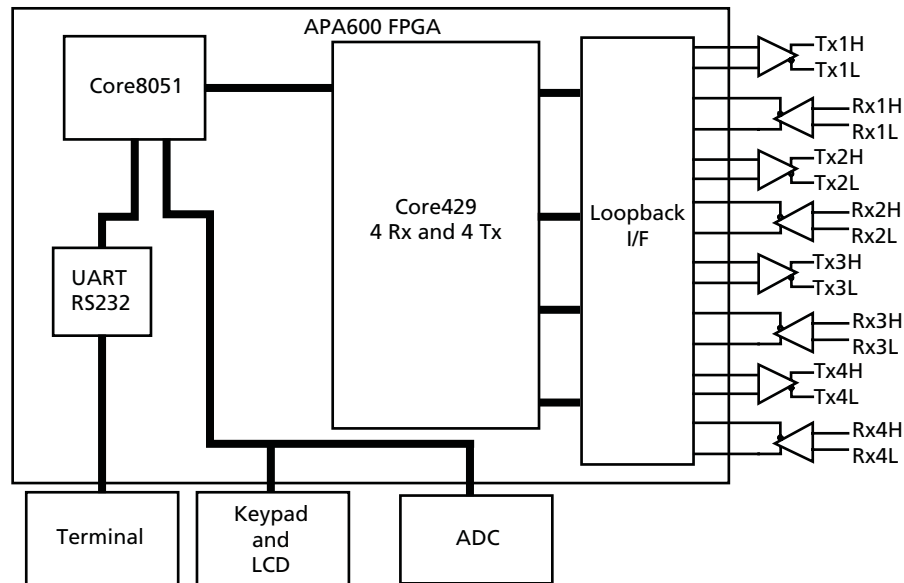

Figure 1-4. Core429 Development System
A complete ARINC 429 development system is also available, Actel part number Core429-DEV-KIT. The development system uses an external terminal (PC) with a serial UART link to control Core429 with four Rx and four Tx channels implemented in a single ProASICPLUS APA600 FPGA. Figure 1-4 shows the development system.